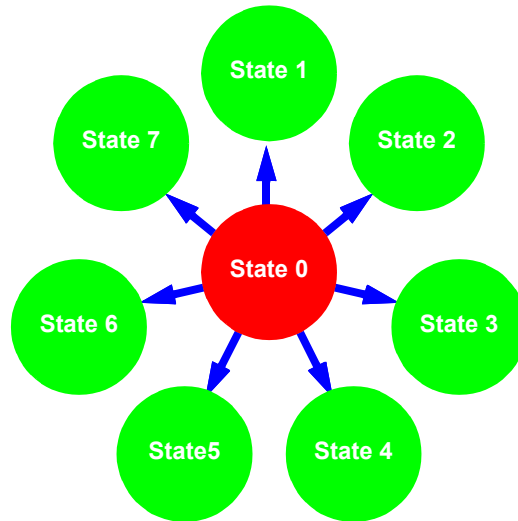
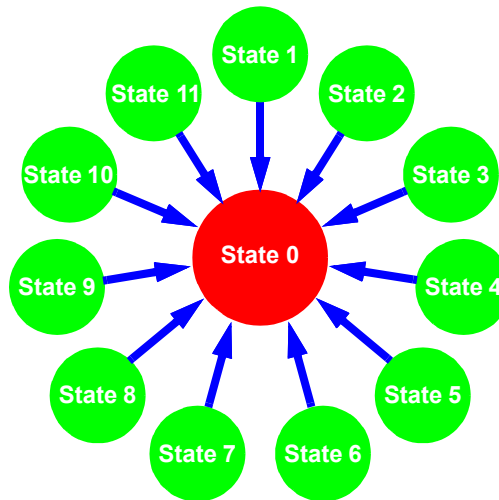

Figure 99: Maximum 7 State Transitions out of a Given State
Figure 100: Maximum 11 State Transitions into Given State
There are a total of 16 digital input signals to the ASM Subsystem which are inputs directly to the DM macrocells. These 16 signals are shown in Figure 98, highlighted in blue. While there are 4 input signals coming from the Connection Matrix and going to each DMx\_x macrocell, there is only 1 output signal from each of these macrocells, which goes directly to the ASM macrocell. There are also 3 signal lines that come directly from the Connection Matrix and go to the three Matrix Interface (MI) macrocells which can drive state transitions. These signals are shown in Figure 98, highlighted in green. This sets an upper bound on the number of transitions that the user can select going **out of** a particular state to be 7, shown in Figure 99. There is no limitation on the number of unique transitions that can be supported going into a particular state, the user can select to have transitions going from a state to all other states, shown in Figure 100. Each of these input signals to the ASM macrocell is level sensitive, and active high. A high level input will trigger a state transition.